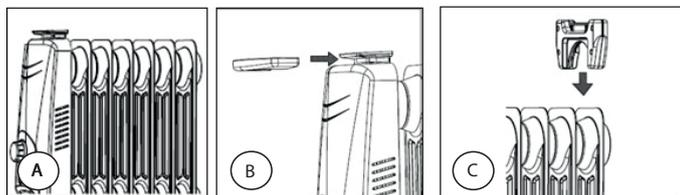

Fig. 2
Remove all parts of the heater from the packaging. Before assembling the heater please ensure the heater body and all parts are free from oil and that the supply cord and plug are undamaged. Turn the radiator upside down on a carpet or other soft surface to avoid damage as shown in (A) Fig. 2. Please ensure that it is supported to prevent it from toppling.
Slide the front foot onto the slide way, located on the bottom of the front panel, until you hear a click. See (B) Fig. 2.
Then take the rear foot and slide it onto the bottom of the rearmost fin, as shown in (C) Fig. 2, until you hear a click. Ensure that the face with the screw holes face inwards.